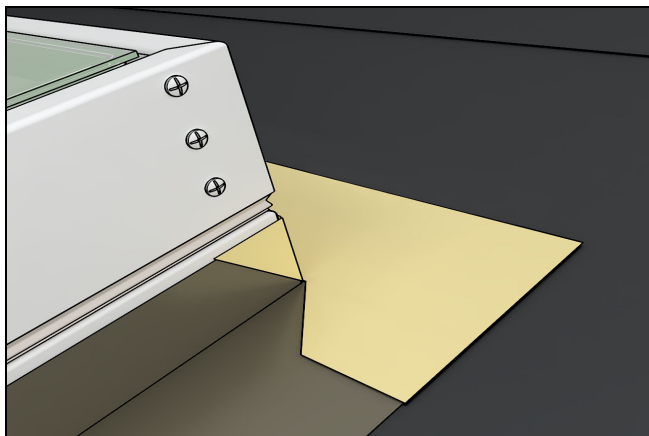

Figure 14
12. Wrap the top frame of the unit with adhesive flexible flashing. See Figure 14.